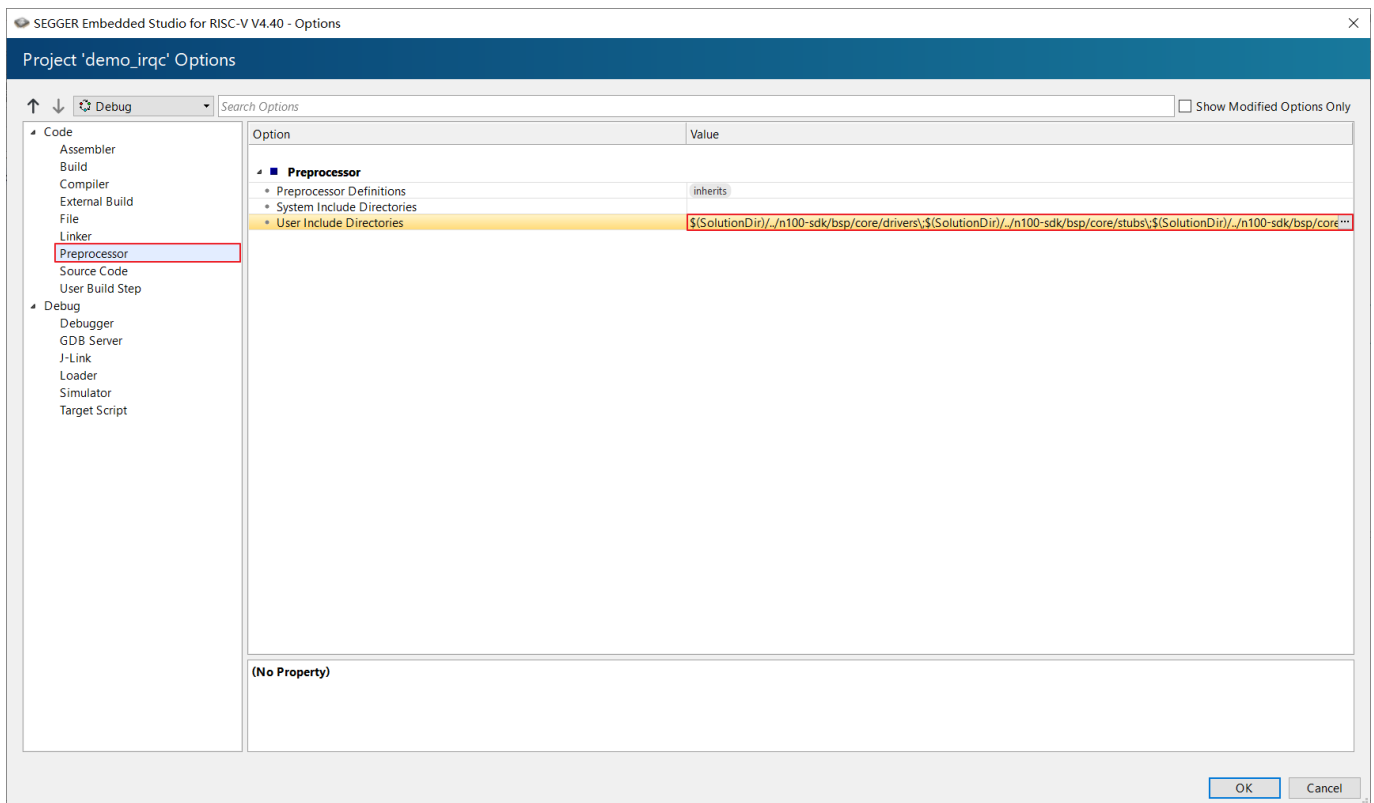

Figure 2-20 Project’s Header File Path
- Select "Project --> Options" in the menu bar to open the project settings pop-up window, as shown in Figure 2-20. Under the “Preprocessor” option, enter the required header file path for the project, including nuclei_sdk header file path and application header file path.